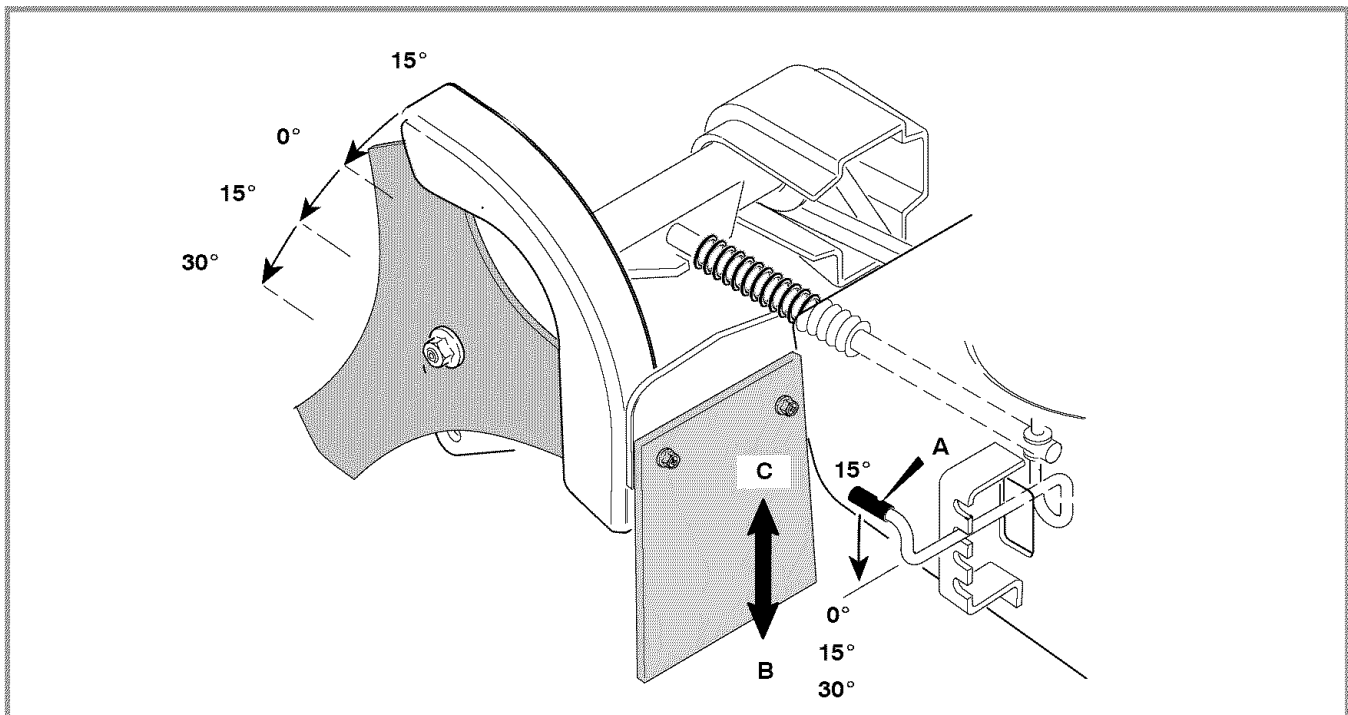

Figure 12: Index Lever
- 3 For a vertical cut (C), set the index lever in position (0°) See Figure 12.
- 4 For a bevel cut (B), set the index lever in one of the three bevel positions (15°, 15°, 30°). See Figure 12.